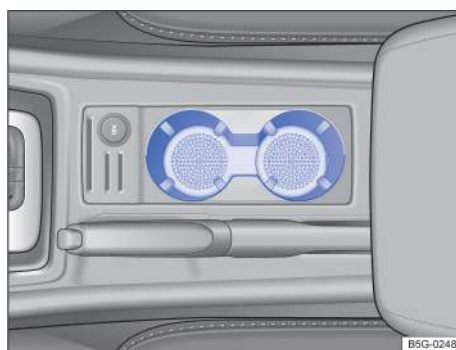

Fig. 135 In the front center console: Cup holders (without a cover).
- For vehicles without a cover, place the drink in the cup holder → fig. 135.